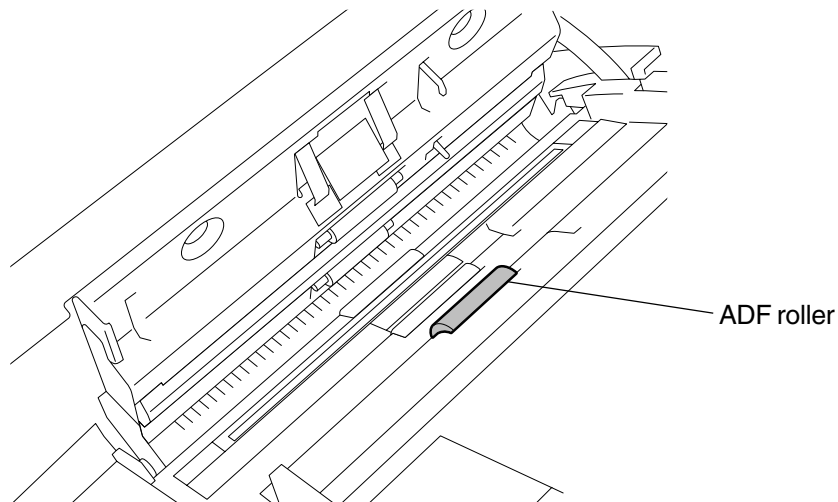

Fig. 10-2-6
6. ADF roller (refer to Fig.10-2-6)